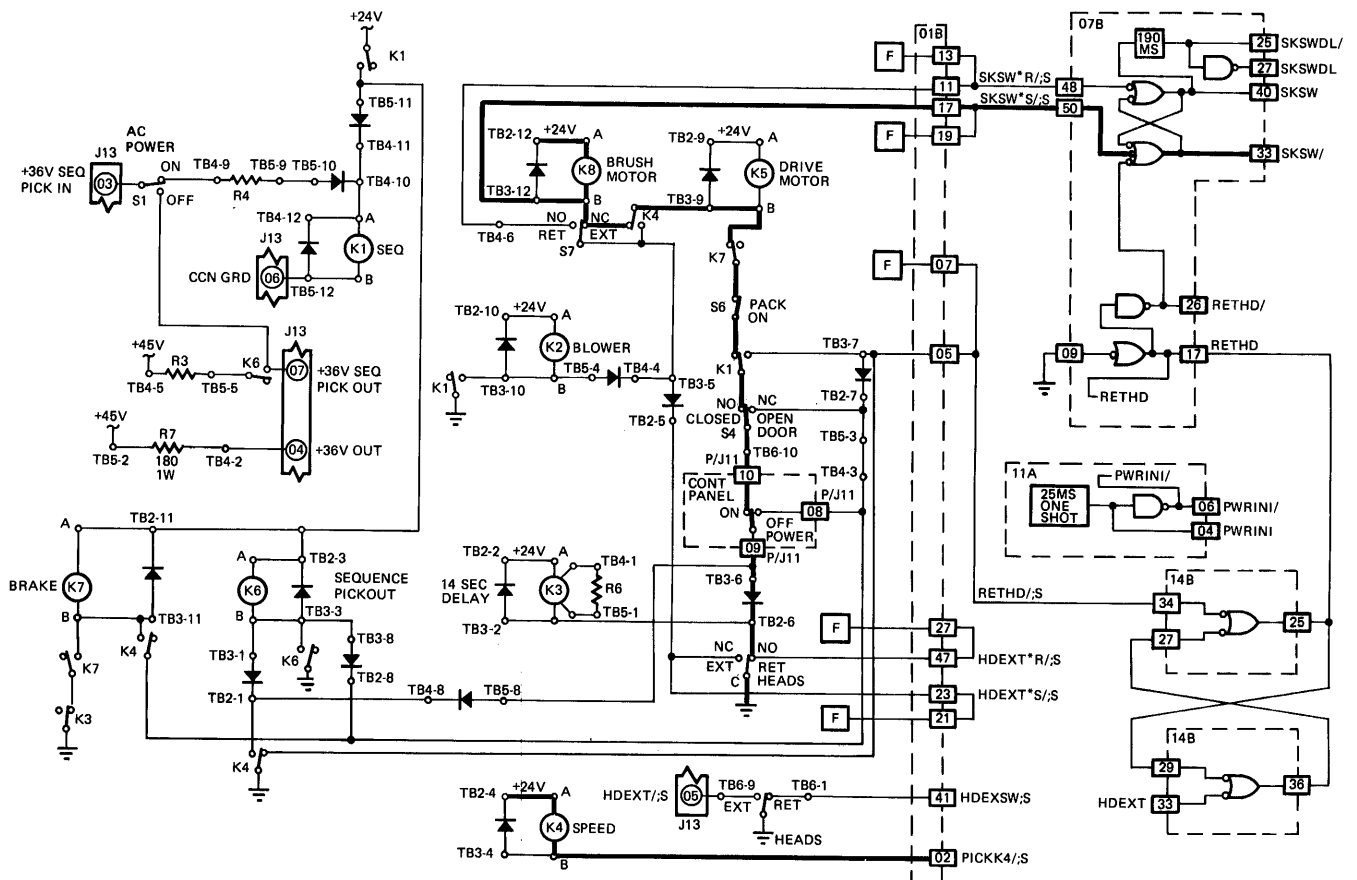

Figure 3-8. Energizing Brush Motor, Relay K8 and Speed Relay K4
- Figure 3-8. Energizing Sequence Pick Out Relay K6 and Speed Relay K4